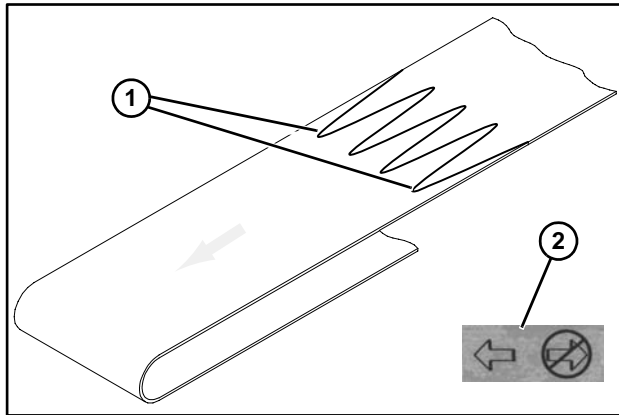

Figure 26
2. Orient belt so splice leading fingers (**Figure 26, item 1**) point in the direction of belt travel as identified by the conveyor directional label (**Figure 26, item 2**).